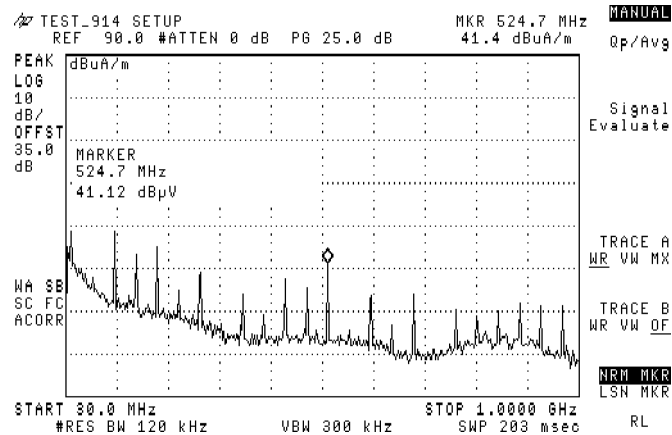

Figure 3-3. Moving the Marker to the Highest Response
10. Move the marker using the front-panel knob, the step keys, or **PEAK SEARCH** to the response of interest and record that frequency. See Figure 3-3.